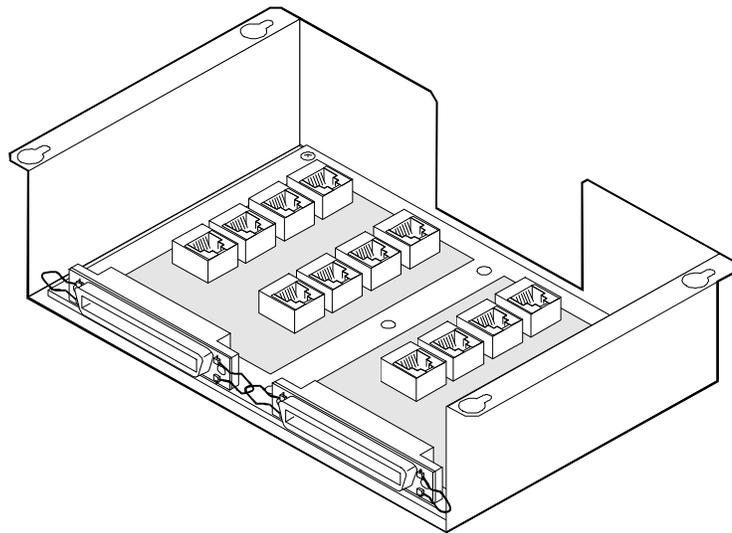
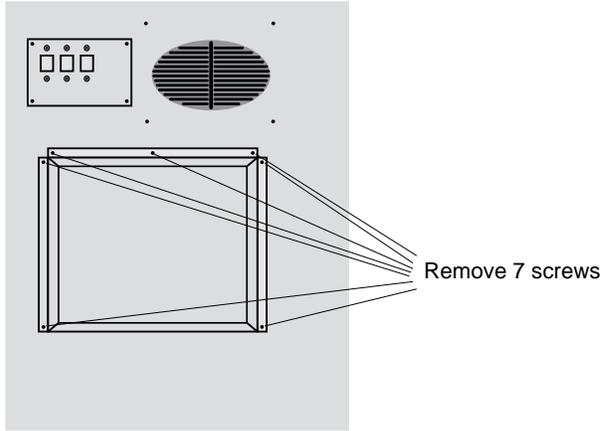

Figure 10-11. MAP/100 Tip/Ring Distribution Panel Assembly Mounted inside a Larger Cover for the Termination of 48 Lines
Figure 10-12. Where to Attach the Tip/Ring Distribution Panel
Figure 10-11 shows the MAP/100 T/R distribution panel assembly. Figure 10-12 shows where to attach the distribution panel(s) to the MAP/100.
6. Remove the seven screws that secure the distribution panel cover. This cover is located in the center of the rear of the MAP/100 and extends approximately 1-1/2 in. out from the chassis (Figure 10-12).